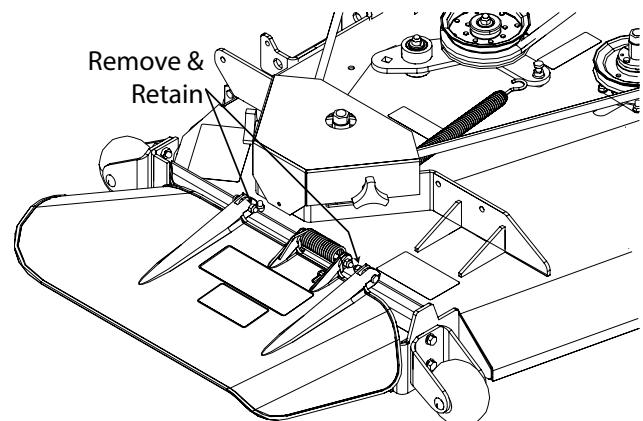

Figure 3-16. Removing the Discharge Chute
5. Install the rear hinge bracket to the cutter deck using one (1) 5/16-18 x 1" bolt, one (1) 5/16" flatwasher and one (1) 5/16-18 elastic stop nut. Do not tighten the hardware. See Figure 3-16.